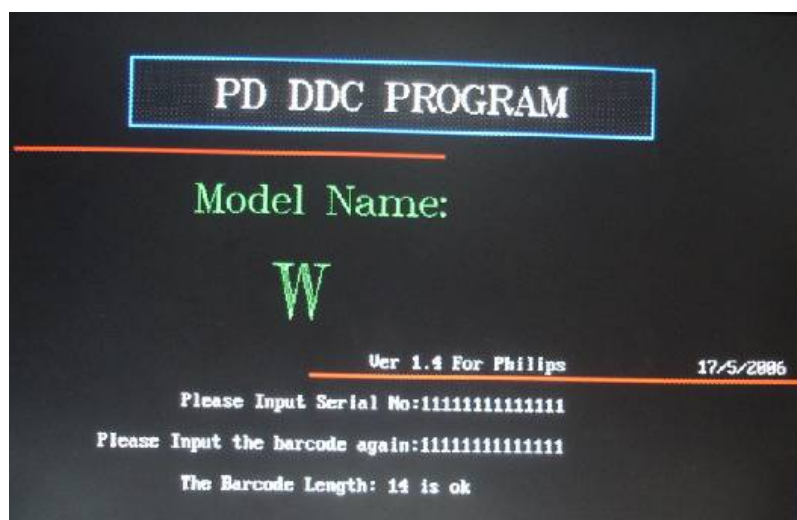

Fig 5
- If you correctly input, there will appear "The Barcode length: 14 is OK" as shown Fig 5.